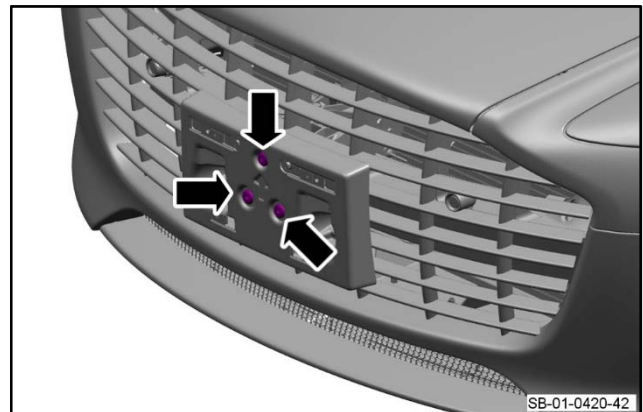

Figure 42
6. Install and torque the three screws that attach the front license plate plinth to the bumper armature assembly to 5 Nm (refer to Figure 42).